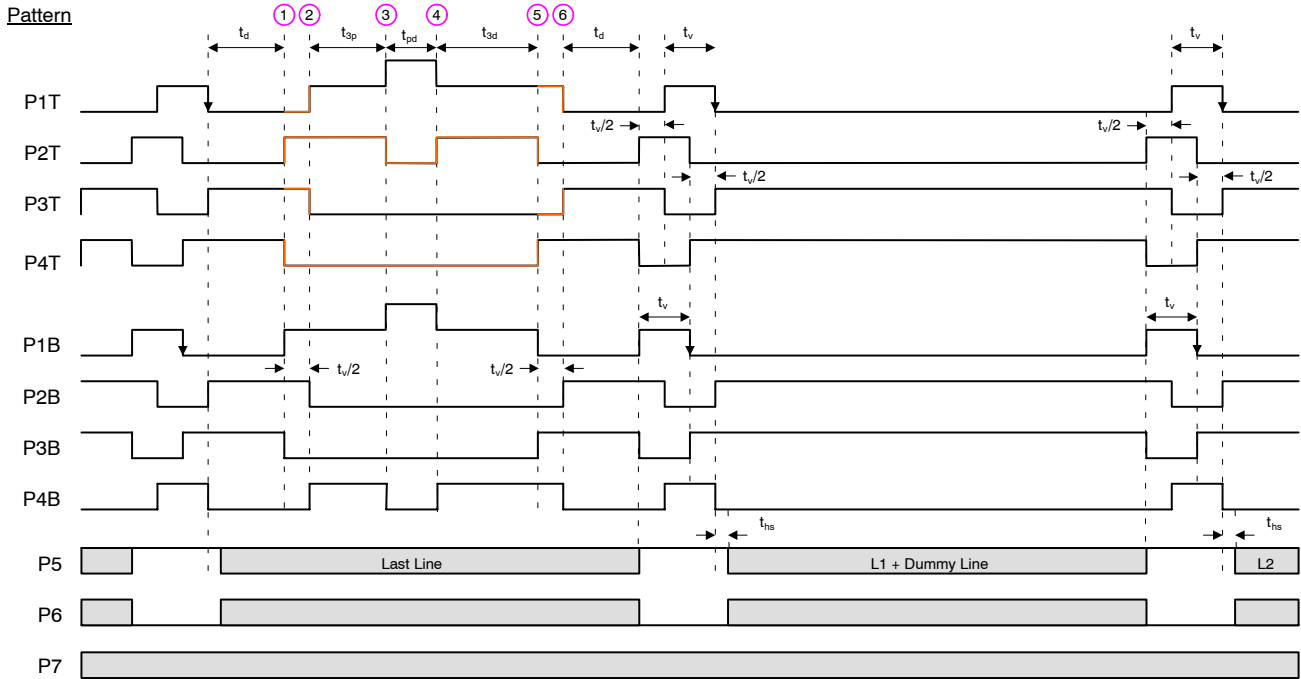
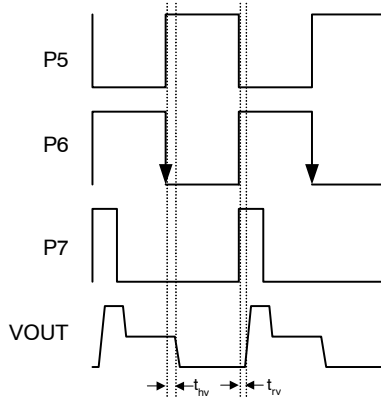
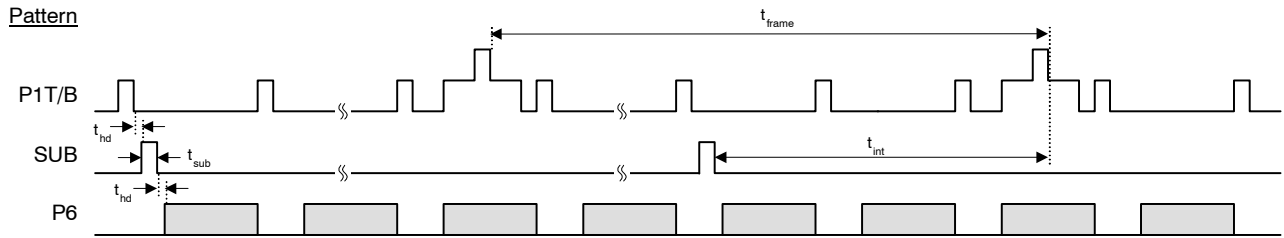
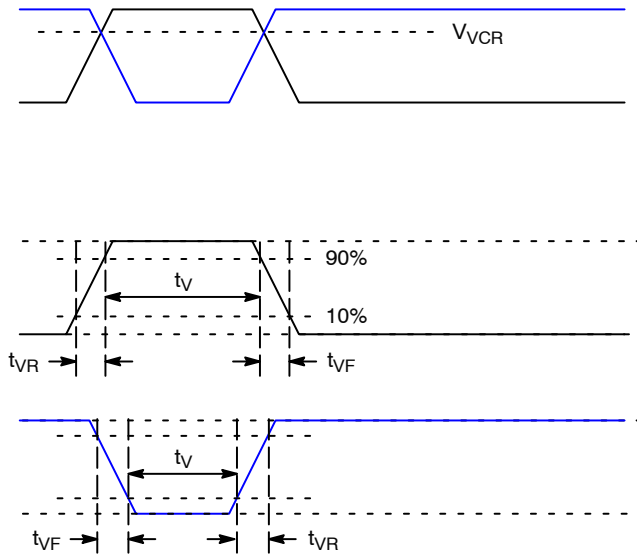

Figure 21. Photodiode Transfer Timing
Figure 23. Pixel Timing Detail
Figure 24. Frame/Electronic Shutter Timing
Figure 25. VCCD Clock Edge Alignment
1. Refer to timing diagrams as shown in Figure 21, Figure 22, Figure 23, Figure 24 and Figure 25.
2. Refer to Figure 25: VCCD Clock Edge Alignment.
The timing sequence for the clocked device pins may be represented as one of seven patterns (P1–P7) as shown in the table below. The patterns are defined in Figure 21 and